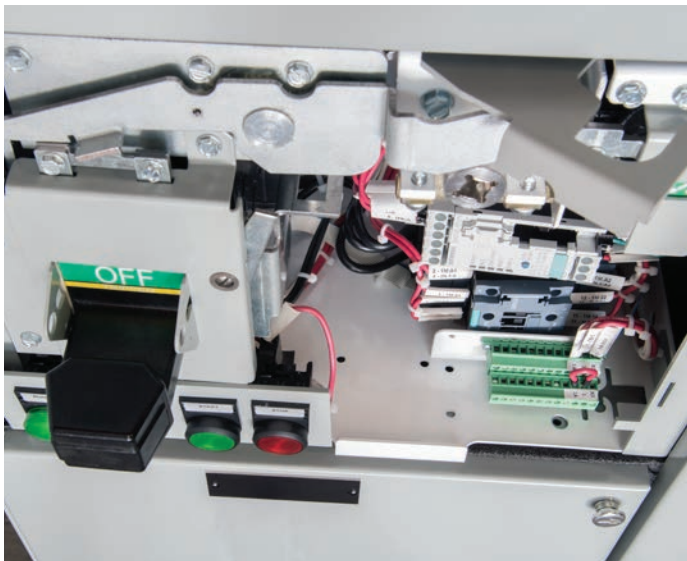

Figure 7: Closing racking lever
- 7c. Once the unit has been pushed in as far as it can go, close the racking lever in top barrier plate (refer to Figure 7).